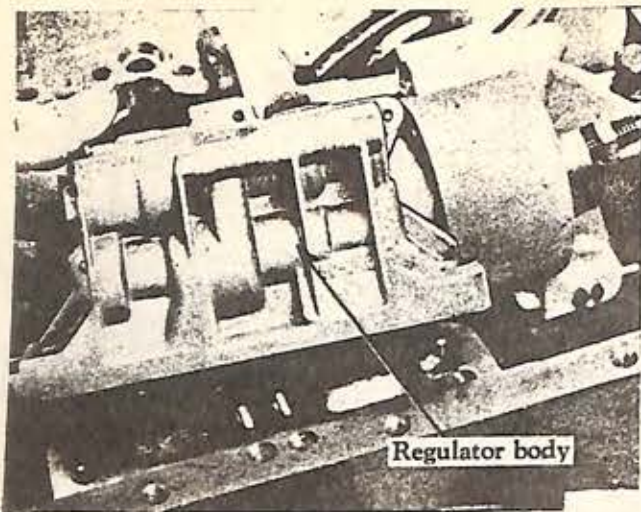

Fig. 31
4. Remove the regulator body attaching capscrews and washers, then remove the regulator body from the case (Fig. 31). **NOTE:** Keep the control pressure valve and the converter pressure regulator valve in the bores in the pressure regulator to avoid damage to the valves.